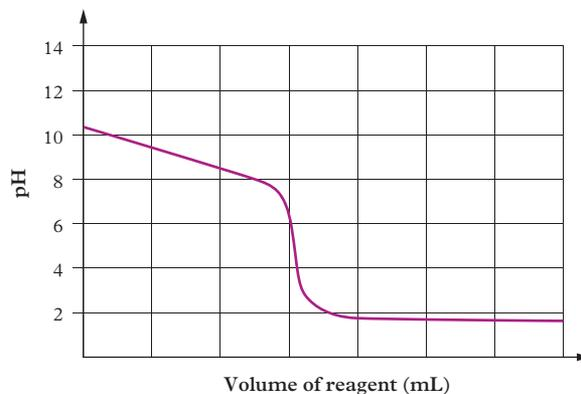

FIGURE 2 A titration curve
- Identify the equation that best represents the reaction from the titration curve in Figure 2.